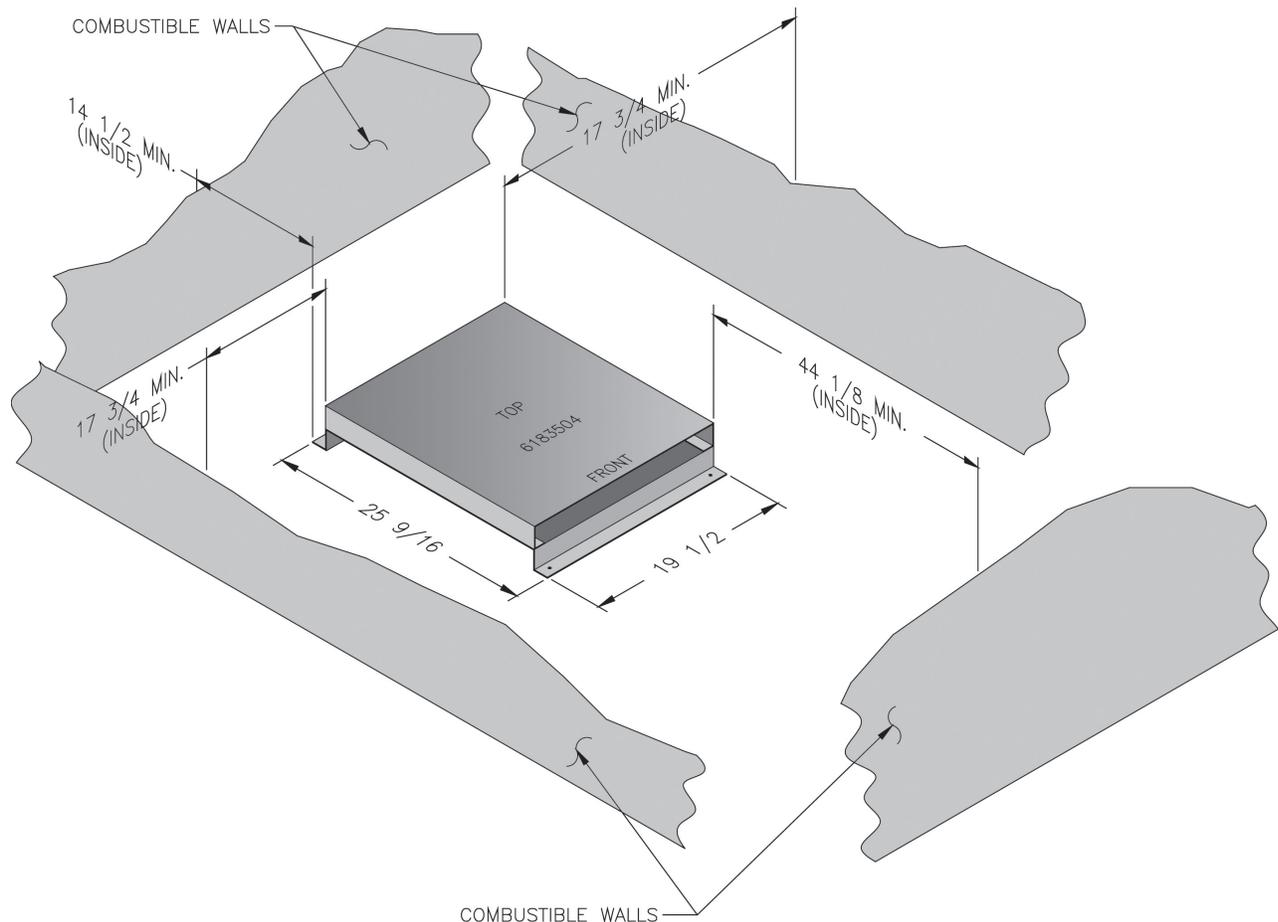

Figure 2-2: Floor Shield
2. Locate shield such that clearances to combustable walls are as indicated in Figure 2-2. These dimensions will assure that the boiler jacket will be at least 18" from the side and rear walls and 48" from the front wall, as required by ANSI/NFPA 31.